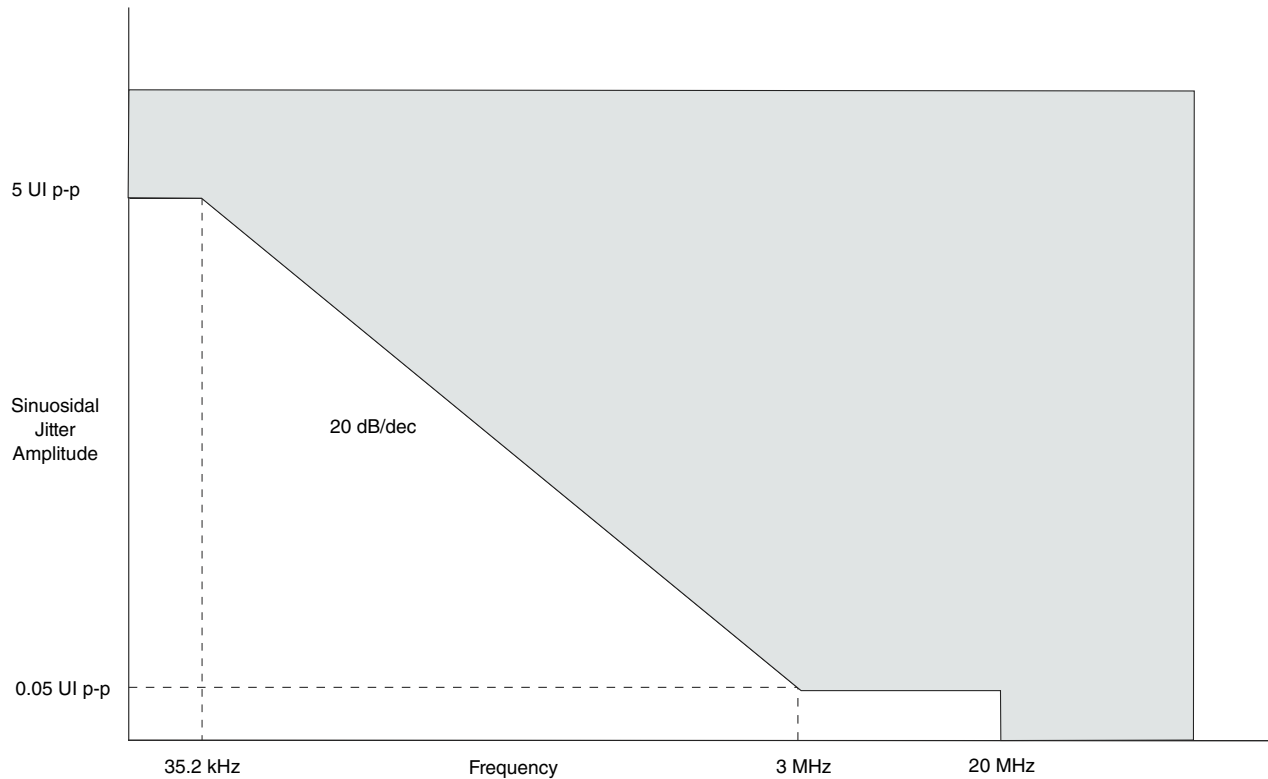

Figure 44. Single-frequency sinusoidal jitter limits
3. Total jitter is composed of three components: deterministic jitter, random jitter, and single frequency sinusoidal jitter. The sinusoidal jitter may have any amplitude and frequency in the unshaded region of Figure 44. The sinusoidal jitter component is included to ensure margin for low frequency jitter, wander, noise, crosstalk, and other variable system effects.